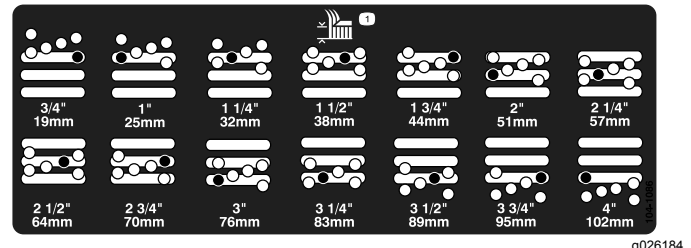

Figure 5
5. Move the chamber to the desired height-of-cut and install a spacer into the designated height-of-cut hole and slot (Figure 5).